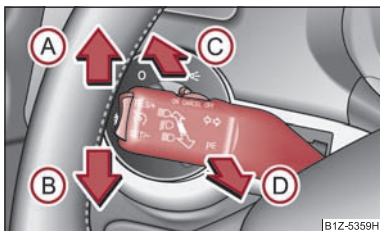

Fig. 43 Turn signal and main beam lever
- Push the lever upwards  or downwards  ⇒ fig. 43 .